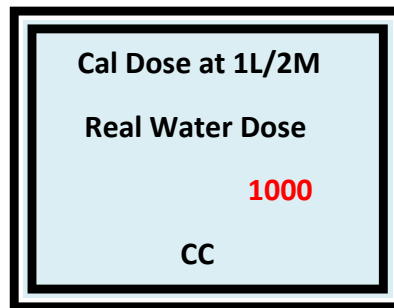

Fig.12 Dose calibration
1.2.4 Press "CAL D " button then Display will show as Fig.12